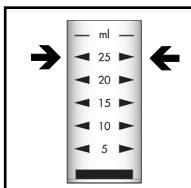

Figure 2
2. Fill the sample cup to the 25 mL mark with the sample to be tested (fig 2).